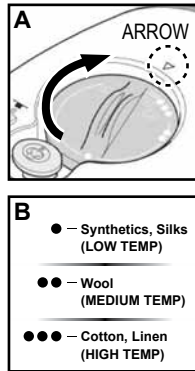

FIGURE 3
2. Turn Temperature Control Dial clockwise so that small arrow (△) on Hand Grip (FIGURE 3-A) points to one of three heat settings on Dial (FIGURE 3-B). Heating Indicator Light will illuminate.